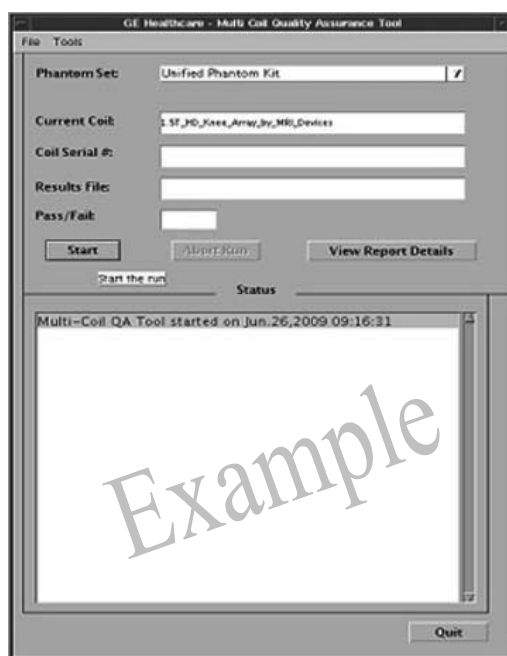

Figure 20
6. Click on [Start] to begin the automated test as shown in *Figure 20*. Depending on the number of test locations (complexity of the coil) the test may take from 3 to 20 minutes.